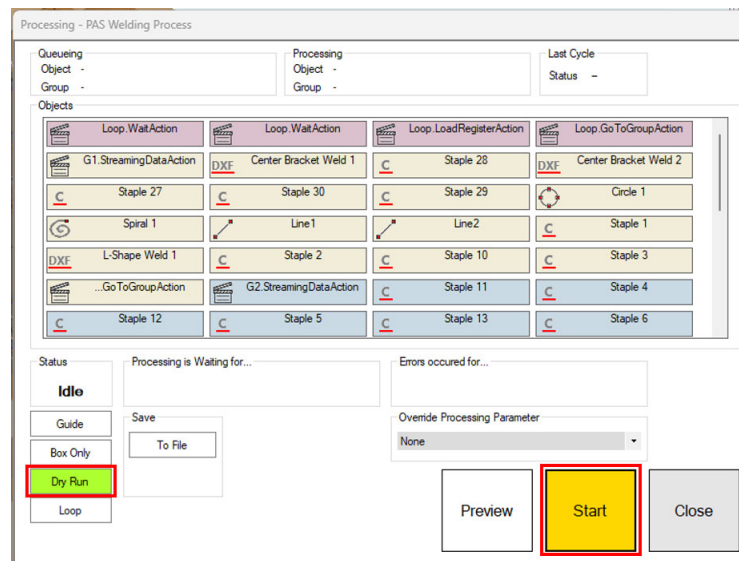

Figure 345: Dry Running the Process
14. Enable **Dry Run** and then click **Start** button to run the process. See Figure 345 (below).